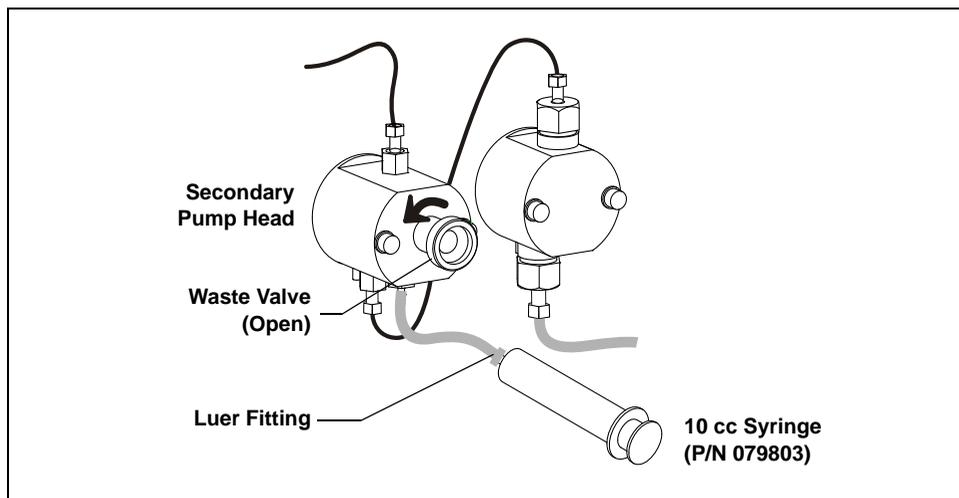

Figure 3-4. Priming the Eluent Lines
3. Connect a 10 cc syringe (P/N 079803) to the luer fitting (see Figure 3-4).